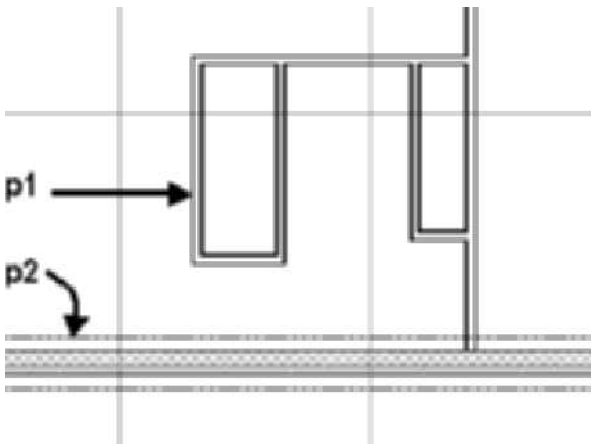

FIGURE 3.95 Walls extended using the Intelligent Cleanup command
26. Select the wall at p1 as shown in Figure 3.95. Choose Intelligent Cleanup from the Modify panel of the Wall tab. Respond to the workspace prompts to extend the wall p2 to wall p1 as shown in Figure 3.95.
Select boundary wall for T-Cleanup or: (Select wall at p2 as shown in Figure 3.95. Press ESCAPE to clear selection of walls.)